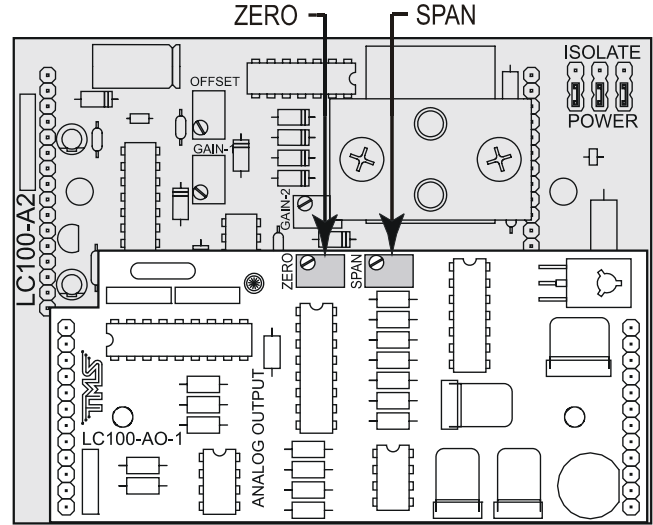

Figure 24 LC100-AO-1 Calibration Potentiometers
2. Enter the LevelCom 100 program. Access the Calibrate menu and select "AN OUT". Press **ENTER**. "ZERO" will be displayed. Press **ENTER**. The meter should read 4 mA. If it doesn't, adjust the **ZERO** potentiometer on the analog output board until the meter reads 4 mA. (Refer to **Figure 24** for the location of the ZERO potentiometer)
3. Press the **UP** or **DOWN** keys to scroll to "SPAN" and press **ENTER**. The meter should read 20mA. If it doesn't, adjust the **SPAN** potentiometer until the meter reads 20 mA. (Refer to **Figure 24** for the location of the SPAN potentiometer)